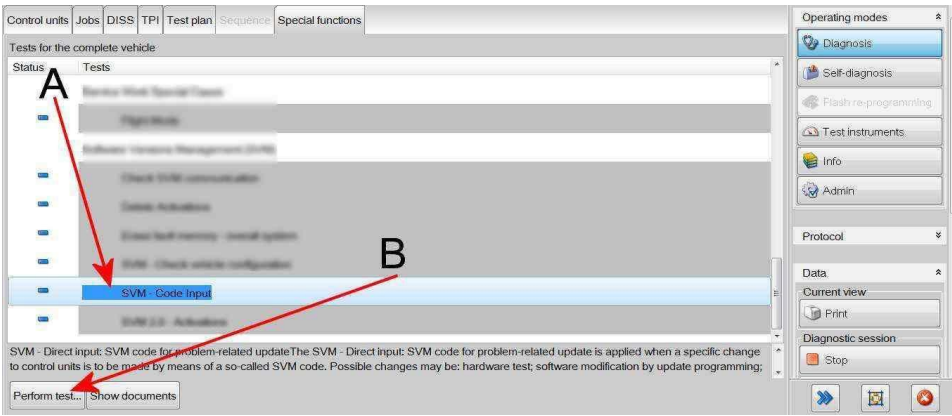

Figure 1
- Because of the highest transmission stability you **MUST** use the diagnosis interface VAS 6154 (WiFi diagnostic tool) ONLY in USB operation or the cable-connected VAS 5055 for the reprogramming (updating) of control units. If these units are not available, the diagnosis interface VAS 5054 (A) can also be used in USB mode
- Referring to Figure 1 - Within the Special functions tab - Select SVM- Code Input (Point A)